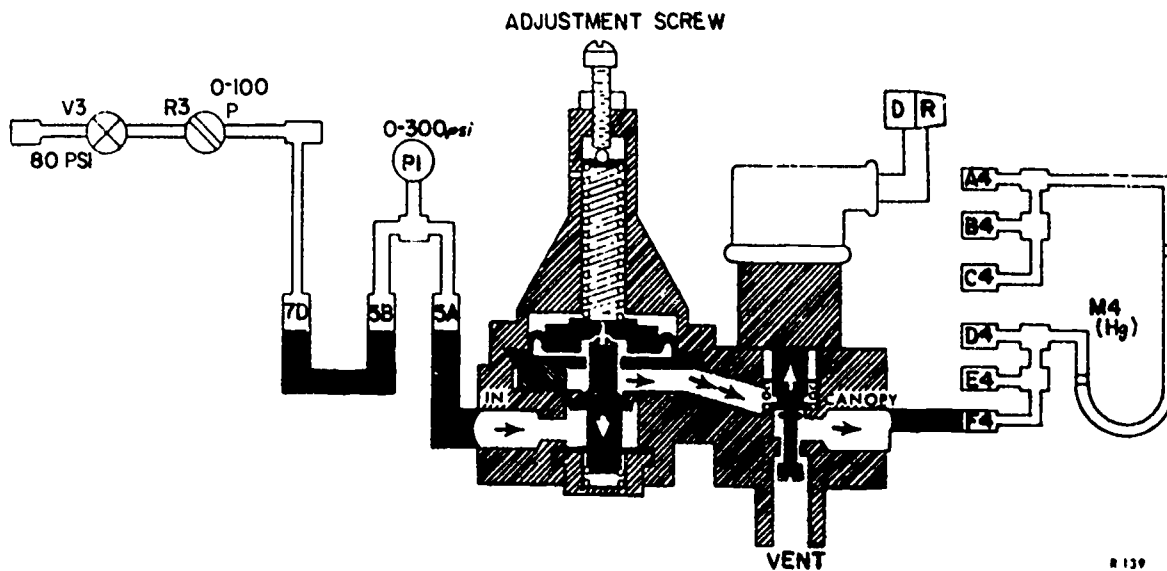

Figure 1.
(1) Inspect all parts for evidence of _____, _____, and _____.
(2) Inspect all threaded areas for _____, _____, _____, or _____.
a. Refer to the hookup shown in figure 1 to complete the following steps.
c. The hoses are indicated by heavy black lines in figure 1. Get the hoses from the bottom of the trainer. Connect the hoses to the regulator as shown. Do Not use a wrench to tighten the "B" nut as finger tightness is sufficient for this test.
i. Place switch S2 in position number 3. This energizes the canopy seal regulator solenoid or simulates closing of the canopy. If the regulator is adjusted correctly, manometer M4 will read 20 to 24 psi. This is the amount of pressure actually going inside the canopy seal. If the reading on manometer M4 is not between 20 to 24 psi you will have to adjust the canopy seal regulator. Adjustment procedures can be found on page 3, paragraph 8b, of the TO. Make any adjustments now if necessary. Refer to figure 1 in this workbook to find the adjustment screw. Have your instructor check your manometer reading.